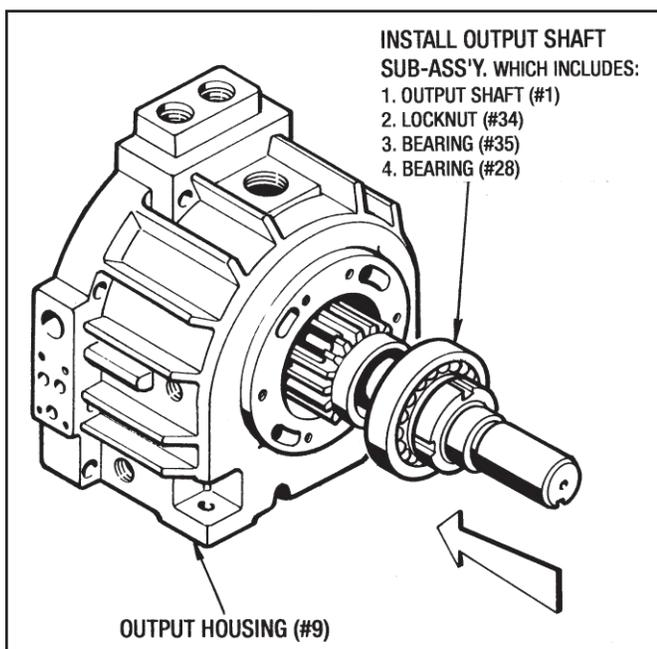

Figure 9.4 - Installing Output Shaft
3. Insert the Output Shaft with the (2) Bearings on it into the Output Housing (#9) until Bearing (#35) seats into the bearing bore. (See Figure 9.4)